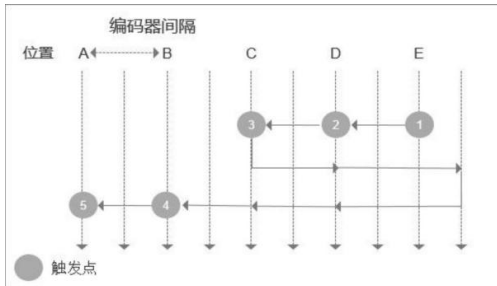

Figure 3.1.8 Tracking Shift
(4) Tracking Backward Movement: Scanning is triggered when the target object moves backward. If the target object moves forward, the distance traveled forward must exceed the distance the target moves forward (the forward distance is recorded as tracking) plus one encoder pitch to trigger the next scan. As shown in Figure 3.1.8.